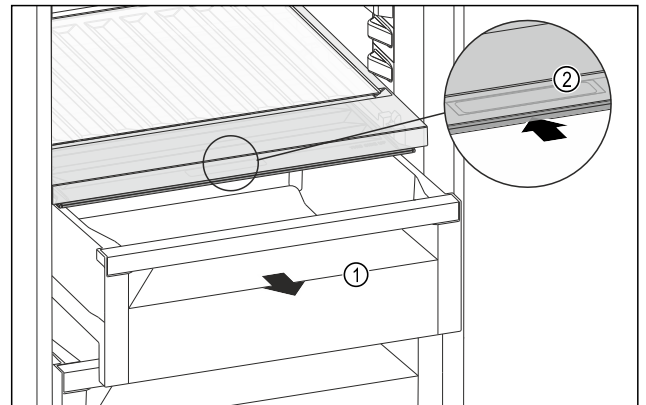

Fig. 159
- ▶ Pull out the drawer Fig. 159 (1).
- ▶ Grasp the recessed grip Fig. 159 (2) on the compartment lid and push the compartment lid backwards at the same time.